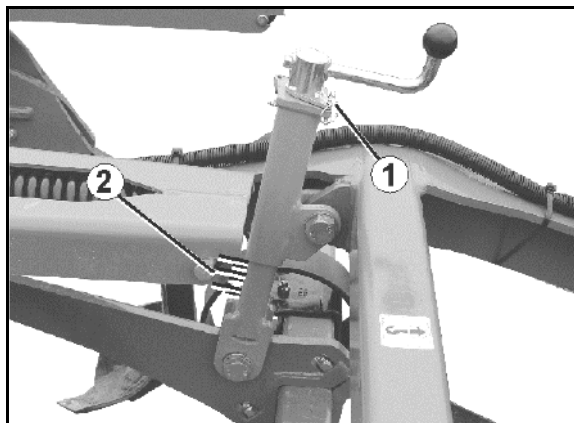

Fig. 33
1. Remove the linch pin (Fig. 33/1).
- A scale is provided for orientation on the adjustment units (Fig. 33/2).